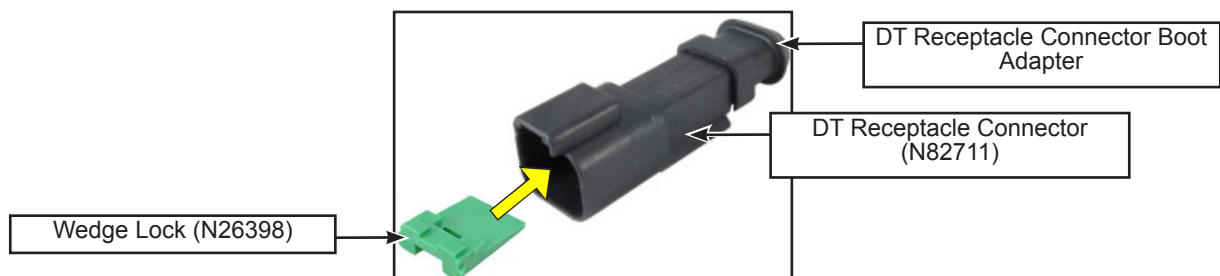

Figure 18 - Wedge Lock Insertion into Deutsch DT Receptacle Connector
- 1.33. Insert the WHITE wire terminal into position 1 and the RED wire terminal into position 2 of the DT receptacle connector PN N82711. Insert the wedge lock PN N26398 into the DT receptacle connector (see figure 18).